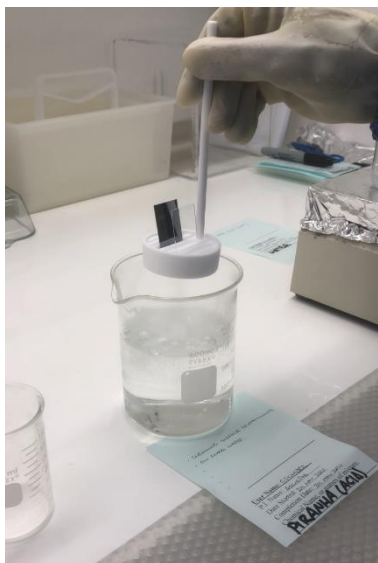

Figure 2. Submerging the samples with PTFE / Teflon holder.
- f. Place samples onto a PTFE/Teflon holder (see Figure 2).